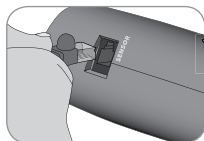

Fig. 30
7. Insert RJ11 plug into jack labeled "sensor" on right side of alarm (Fig. 30). Alarm will activate. Press the HOLD button. You have 30 seconds to transfer the patient to the chair before monitoring begins.